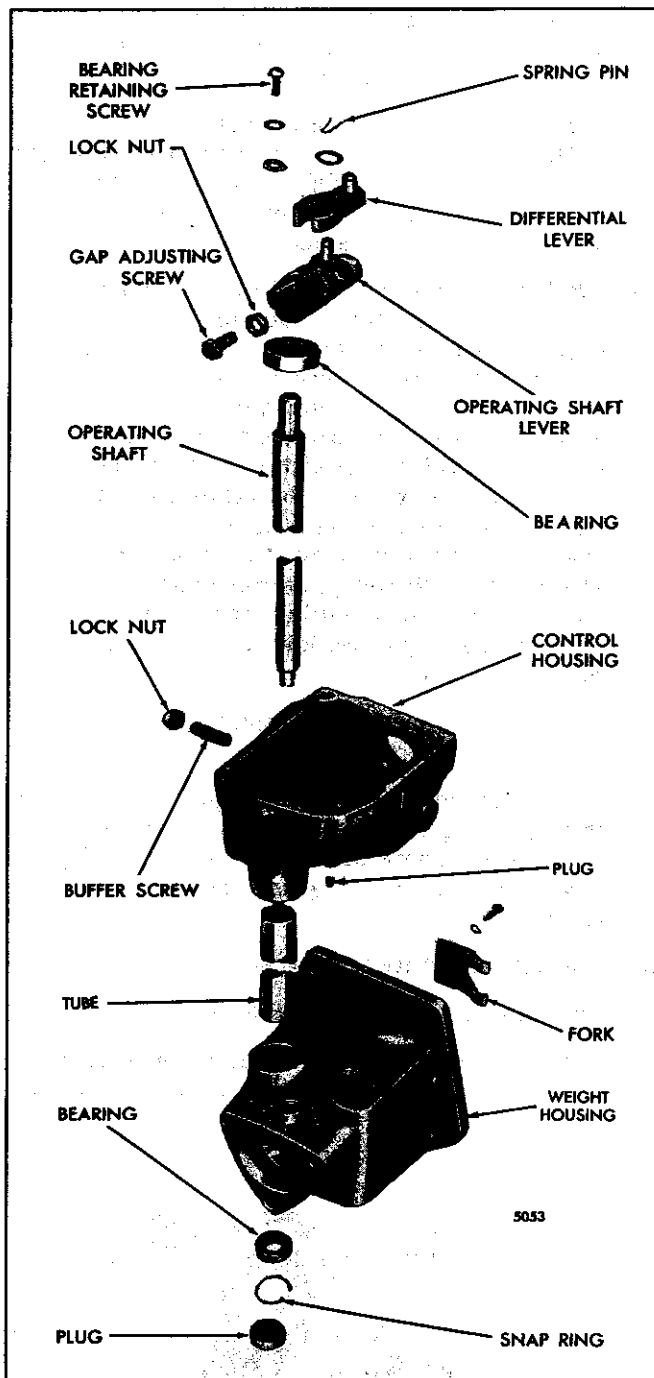

Fig. 5 – Governor Housings and Relative Location of Parts
3. Install the governor operating shaft lower bearing, numbered side out, in the weight housing. Install the snap ring to secure the bearing (Fig. 5).